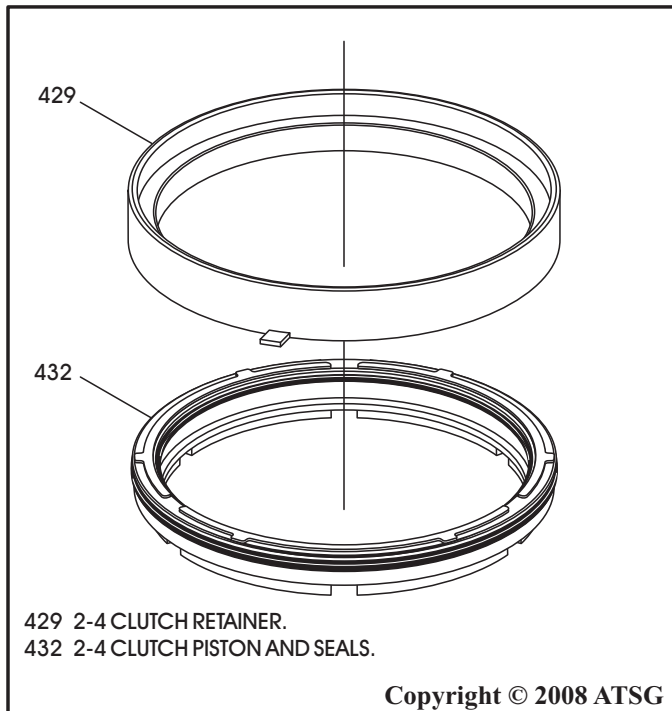

Figure 134
6. Lube the inside seal surfaces of the retainer with a small amount of Trans-Jel® and install the piston assembly into the retainer, as shown in Figure 134.